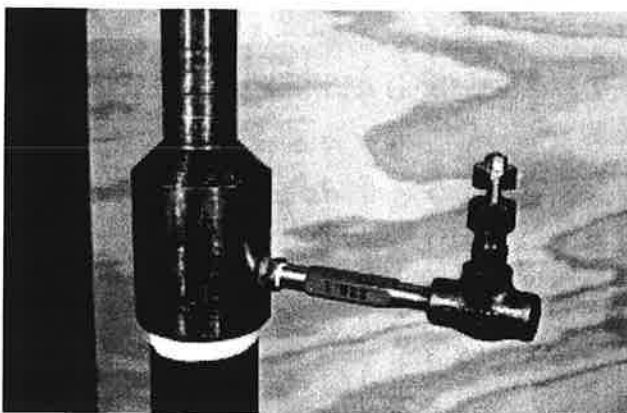

Figure 38. Purge Air through Bleeder Valve
- C. As the pilot drill penetrates the pipe wall, allow line fluid to completely fill valve and fitting to purge all air. See Figure 38. Close bleeder valve.